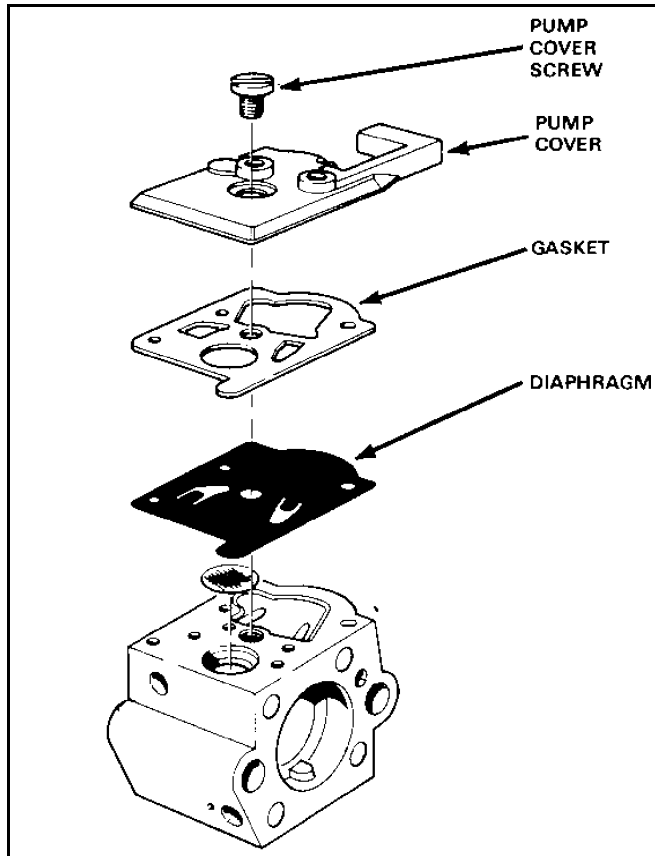
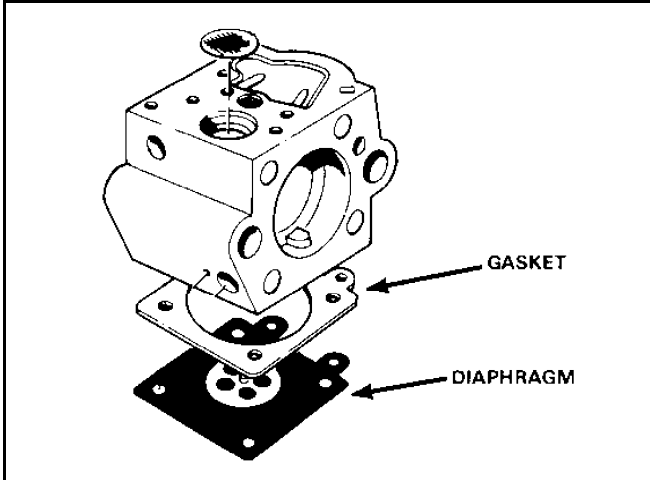

Figure 204
Figure 214
During the vacuum pulse, the metering diaphragm is drawn up which causes the metering lever to pivot on the metering lever pin. This in turn, causes the inlet needle to lift off of the seat which allows fuel to flow to the metering chamber. As the metering chamber fills with fuel, spring pressure on the metering lever closes the needle valve. Refer to Figure 204 to Figure 214.
1. Remove the pump cover screw, pump cover, pump cover gasket, and the pump diaphragm (Figure 204).
6. Install the metering diaphragm over the gasket and locating pins on the carburetor body. The metering diaphragm should be installed with the metering disc toward the carburetor body (Figure 214).